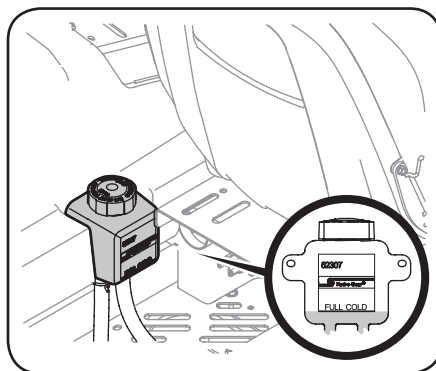

Figure 4-7
1. Clean the reservoir cap and the area around the cap to prevent debris from contaminating the transmission oil. See Figure 4-7.
2. Turn the reservoir cap counter-clockwise to remove, then check the oil level in the reservoir. Oil should be visible at the bottom of the cup, but the oil level must NOT be above the "FULL COLD" line. See Figure 4-7. DO NOT FILL THE RESERVOIR.